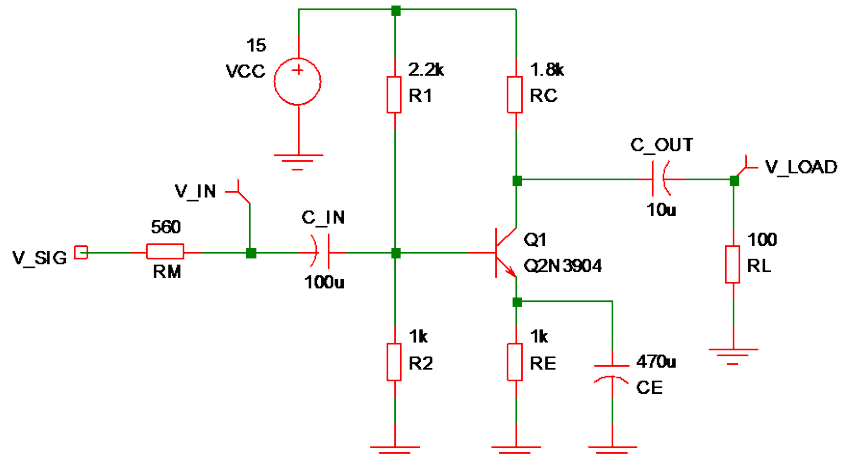

Fig. 4: Common emitter amplifier with 100 ohm load.
- Step 4a: Replace the 100 kohm resistor with a 100 ohm resistor (see Fig. 4).